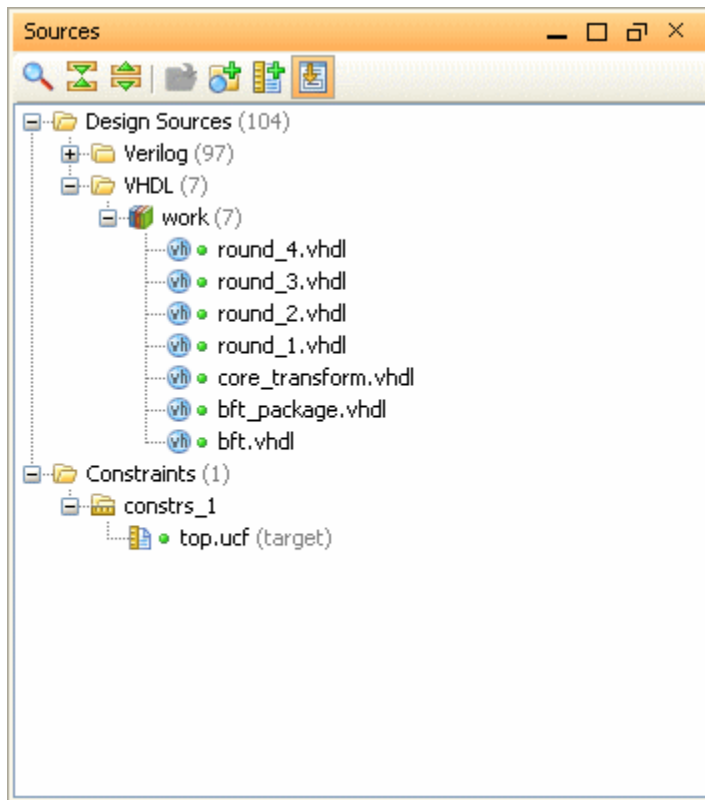

Figure 7: Viewing Sources Grouped by Type
- 2-1-3. Collapse the Verilog Folder by clicking on the minus sign (-) next to it (Figure 7).